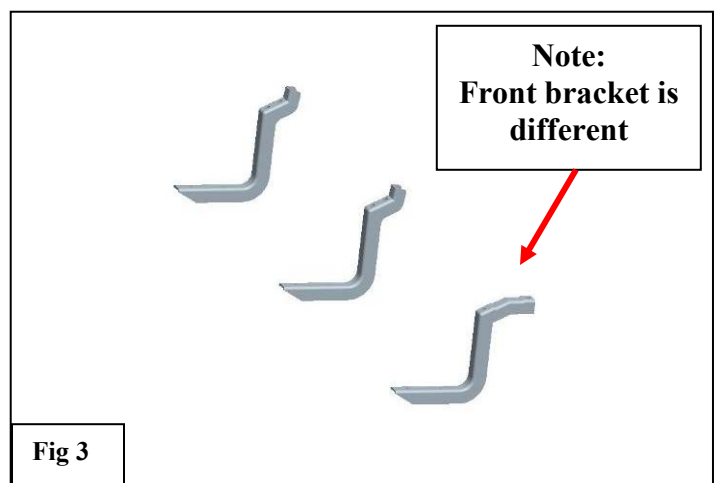

Fig 3
2.  **NOTE:** For each side of the vehicle, the different bracket goes toward the front. (Fig 3)